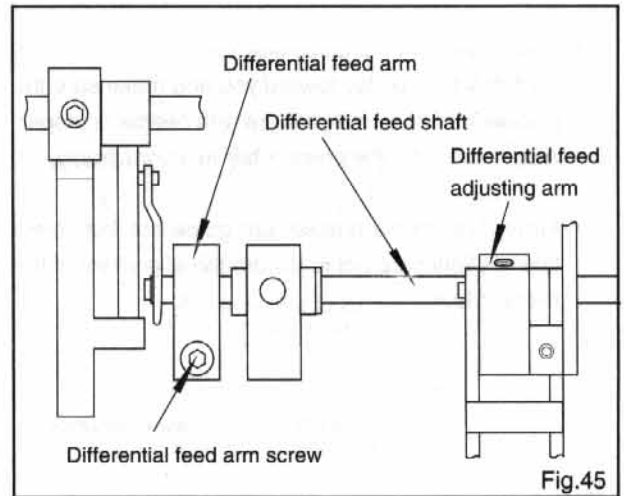

Fig.45
- Since there is a slight play in auxiliary feed dog, loosen differential feed arm screw (Fig . 45) and adjust differential feed arm so that there is 0.5 mm clearance between auxiliary feed dog and edge of throat plate slot when auxiliary feed dog is pushed back to its rearmost position.